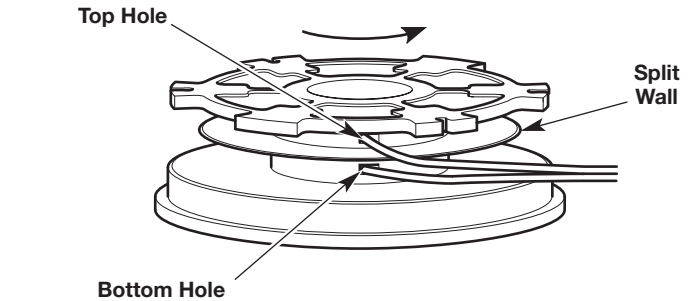

Fig. 22
2. Using one split end, insert one line into the top hole and the other line into the bottom hole in the inner reel (Fig. 22).